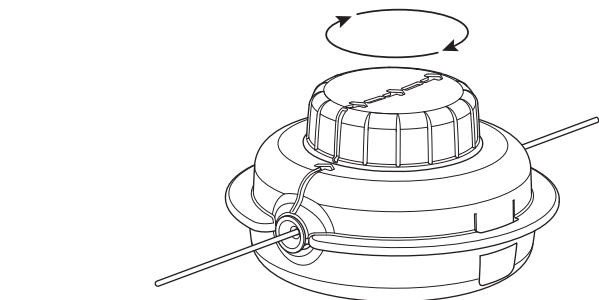

Fig. 18
- Turn the bump knob clockwise to wind the line until about 5 inches (12.7 cm) protrude from each side of the cutting head (Fig. 18). **DO NOT** push the bump knob down while winding the line.